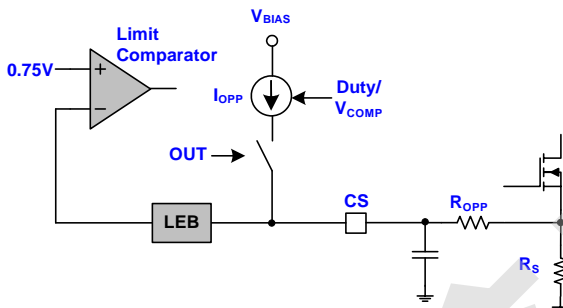

Fig. 15
In general, the power converter can deliver more current at high input voltage than the low input voltage. To compensate this, an offset voltage is added to the CS signal by an internal current source (IOPP) and an external resistor (ROPP) in series between the sense resistor (RS) and the CS pin, as shown in Fig. 15. By
Since in light load conditions this offset is in the same order of magnitude as the current sense signal, it must be removed. Therefore the compensation current is only added when the COMP voltage is higher than 1.8V, as shown in Fig. 15.